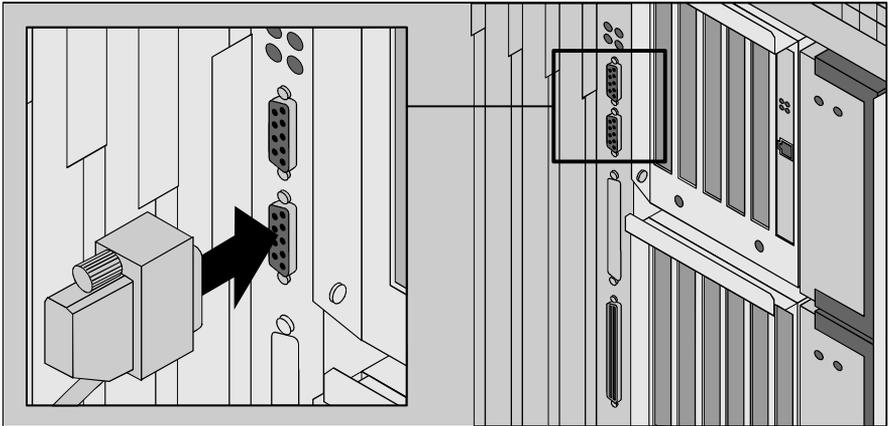

Figure 8: Teleservice interface (E45 model shown here)
- ▶ Insert the connector into the port as shown in figure 8.